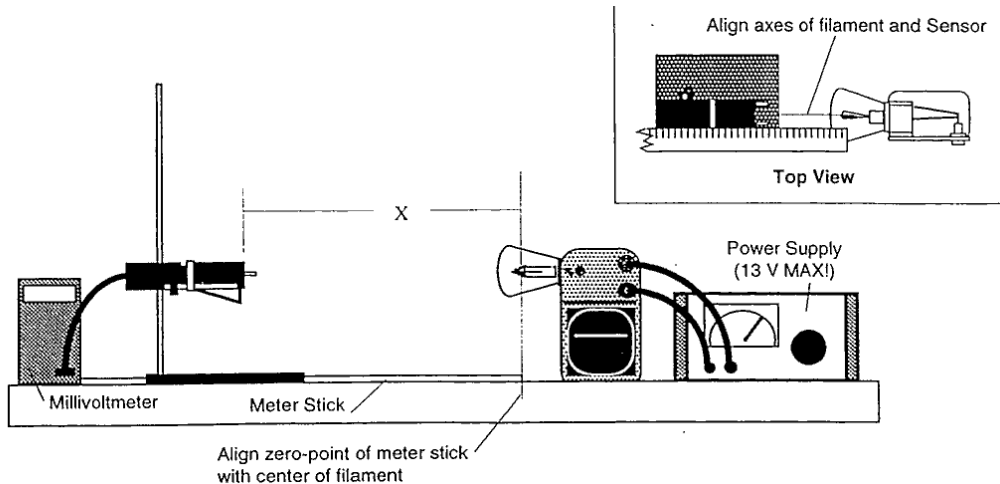

Figure 1.5: Inverse square law setup
1. Set up the equipment as shown in Fig. 1.5. Tape the meter stick to the table. Place the Stefan-Boltzmann lamp at one end, and the radiation sensor in direct line on the other side. The zero-point of the meter stick should align with the lamp filament (or, should it?). Adjust the height of the radiation sensor so it is equal to the height of the lamp. Align the system so that when you slide the sensor along the meter stick the sensor still aligns with the axis of the lamp. Connect the multimeter (reading millivolts) to the sensor and the lamp to the power supply.